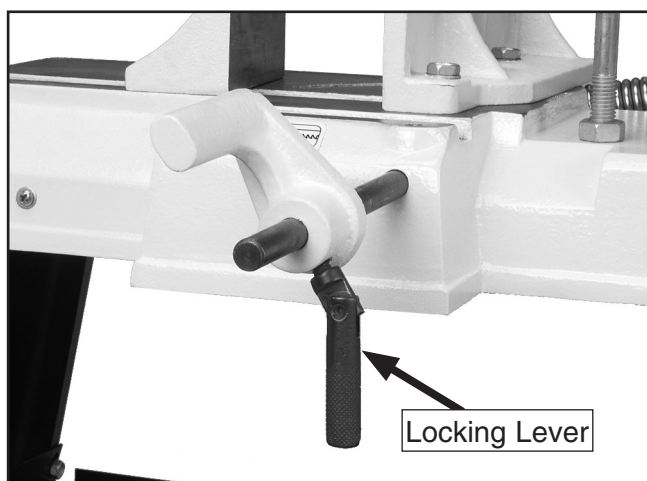

Figure 15. Work stop locking lever.
3. Slide the work stop onto the end of the shaft and lock it into position with the locking lever shown in **Figure 15**.